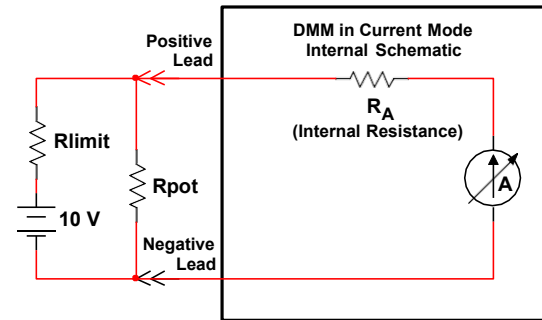

Figure 2.2 – Experimental Setup with Load
4. **Attach** the smallest range potentiometer R_{POT} available in your kit as the circuit's load as shown in **Figure 2.2**. Set it to its highest value at first.